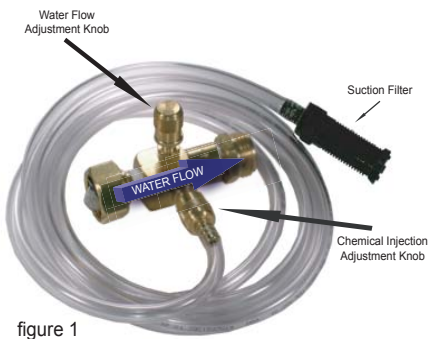

figure 1
- The injector has two adjustment knobs (fig.1) that change the water flow and the injection flow. This allows you to use the injector with most types of power washers.